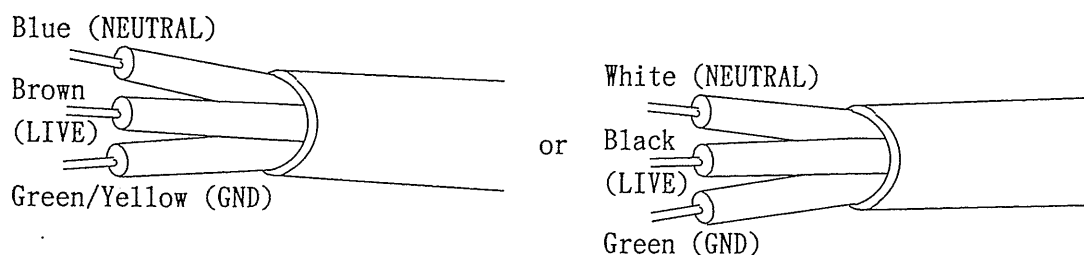

Fig. 1
- ☐ Power Cable: to 3-core cable (See Fig. 1 for the colors.)
TO connect the AC plug to the AC power cord, connect the respective pins of the AC plug to the respective core-wires (LIVE, NEUTRAL, and GND) of the AC power cord by referring to the color codes shown in Fig. 1.